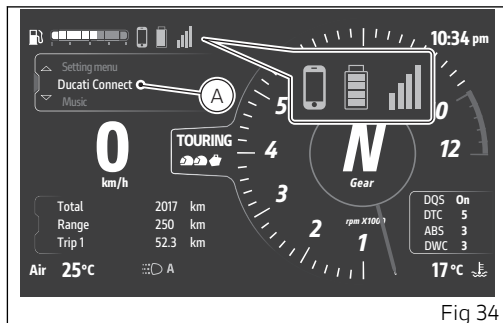

Fig 34
- on the instrument panel, use the joystick ▲ ▼ to select the "Ducati Connect" item from the Interactive Menu and press ENTER (A, Fig 34).
- on the instrument panel, use the joystick to select the “Ducati Connect” item from the Interactive Menu and press ENTER (A, Fig 34).